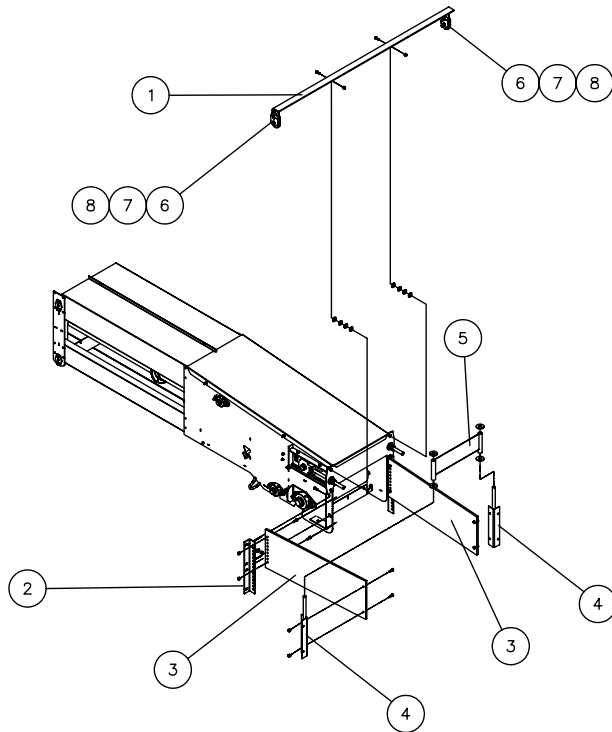

FIG. 1
2. Referring to Figs. 1, 2 & 9, fasten the two mount angles (Items 2) to the four mounting slots in the discharge housing that were used to mount the discharge spout. Use four 3/8" x 1-1/4" long bolts with nylon locknuts. Use two 3/8" flat washers per bolt (one under head and one under nut.)
16. Wrap the upper end of each cable around the 1-1/16" diameter tube of the pivot plate weldment (Item 5), Figs. 1 & 2. The cable will go above the 3/4" flat washer and below the cross plate of the pivot weldment. Clamp the cable end with a 3/16" cable clamp. The u-bolt portion of the clamp should be against the loose (short) end of the cable.